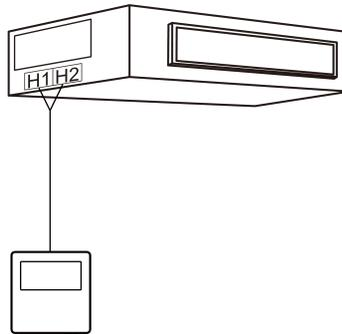

Fig.5.4.1
1) Fig.5.4.1 shows the installation of wired controller.